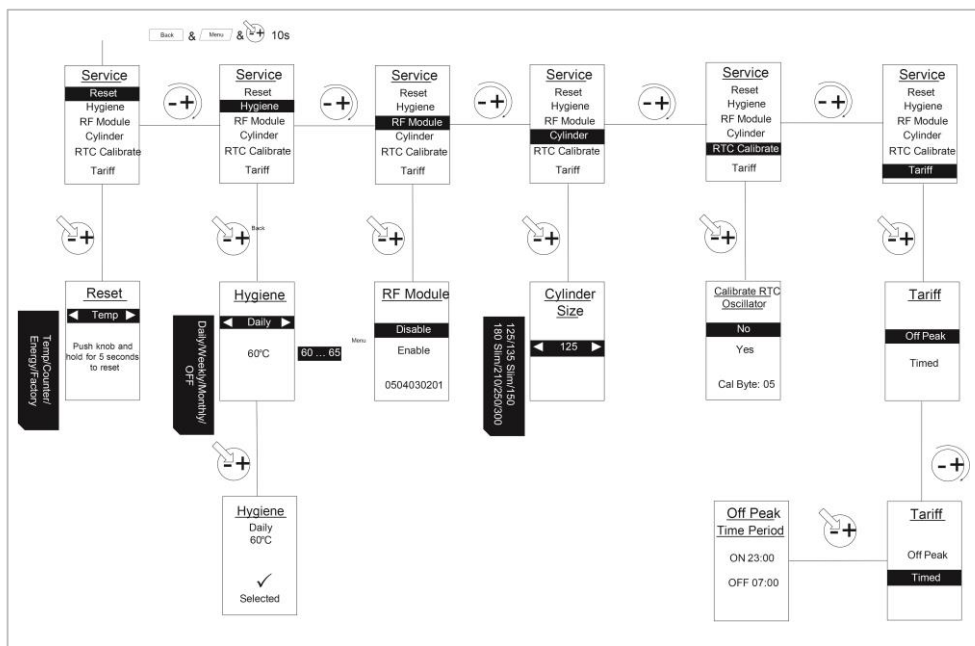

Figure 12: Service Menu for Factory Reset and Communications Set Up
- select using the selector dial if you want to reset the temperature log, the energy log or the full system to the factory defaults. Once the required option is highlighted press and hold the selector dial for 5 seconds (see Figure 12 for how to access the reset function).
- hygiene mode can be set to either Daily, Weekly, Monthly or Off temperature for hygiene mode operation can then be set between a range of 60-75°C (see Figure 12 for how to access the hygiene function).
The water can be controlled by the utility via the RF module installed. Where this communication mode is not available the unit can be operated in standalone mode (i.e. when communications with the utility are cut off, the cylinder operates in standalone mode). In this mode the heater tries to achieve 60°C at T1 and tries to maintain this throughout the day. The communications of the appliance can be changed as shown in Figure 12.